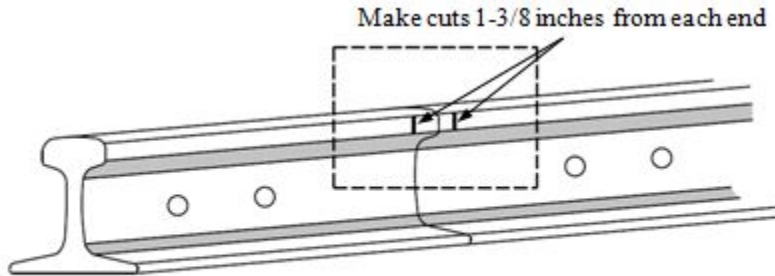

Figure 111H *Marking Additional Cuts*
- If rail was previously cut and no marks are visible, remove 1-3/8 inch from each end.(See Figure 111H)